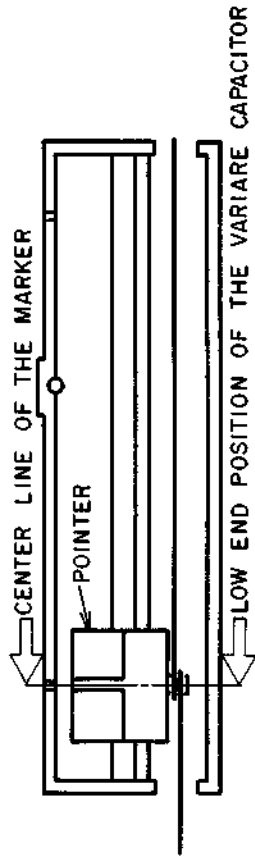

Fig. 7-3
- Turn the tuning control to low end, then set the pointer, to low end point as shown in Fig. 7-3.